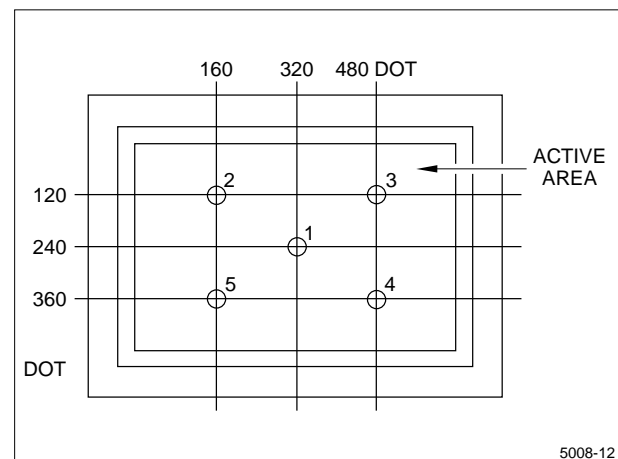

Figure 11. Measuring Points (1 - 5)
**NOTE:** Ratings are defined as the average brightness inside the viewing area specified in Figure 11.